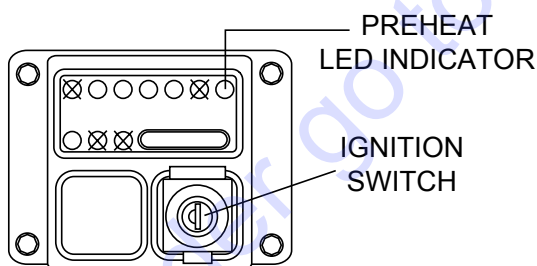

Figure 19. Ignition Switch
2. Insert the ignition key into the ignition key switch (Figure 19). Turn the ignition key clockwise one click to the **ON** position. The preheat indicator lamp will light. Wait for this indicator lamp to go **OFF**. When the indicator lamp goes **OFF**, the glow plugs have been preheated and the engine can now be started.